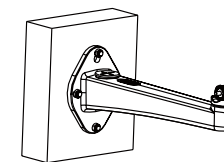

Figure 2-2 Fix the Bracket onto the Wall
2. Fix the bracket onto the wall with M6 expansion screws, as shown in the figure 2-2.